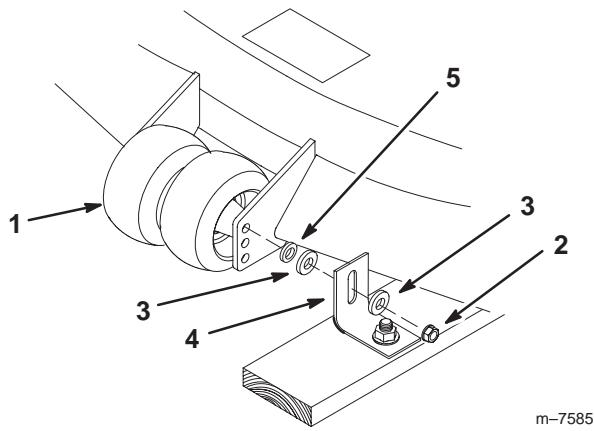

Figure 2
1. Remove the center gage wheel nut, 2 large washers, angle bracket and 1 small washer (Fig. 2). Discard the 2 large washers and the angle bracket.